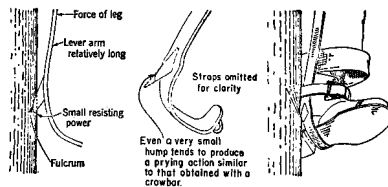

FIGURE 10. Ridge Not Straight
5.08 Figure 10 shows that ineffective penetration of the pole will result from the ridge not being straight.